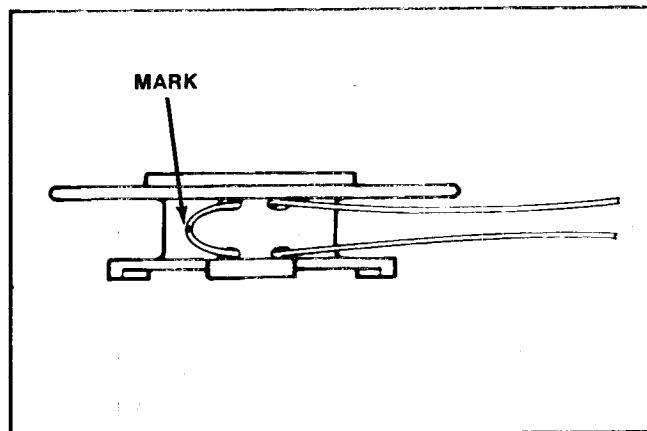

Figure 138
2. Using a felt tip pen, mark the line at the halfway point then feed one end through each of the two holes in the hub of the spool. Pull the line through the holes until the mark you made is between the two holes in the hub. See Figure 138.